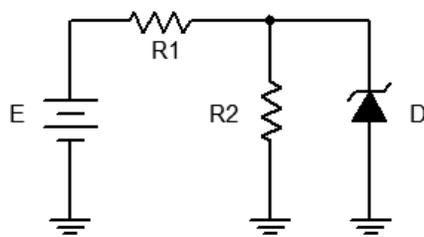

Figure 2
4. Consider the circuit of Figure 2 using  $R1 = 2.2 \text{ k}\Omega$  and  $R2 = 4.7 \text{ k}\Omega$ . In general, to analyze circuits like this, first assume that the Zener is out of the circuit and then compute the voltage across  $R2$  using the voltage divider rule. If the resulting voltage is less than the Zener potential then the Zener is
5. Build the circuit of Figure 2 using  $R1 = 2.2 \text{ k}\Omega$  and  $R2 = 4.7 \text{ k}\Omega$ . Set E to 2 volts. Compute the theoretical diode voltage and current, and record them in the first row of Table 2. Then measure the diode current and voltage and record in Table 2. Finally, compute and record the deviations.